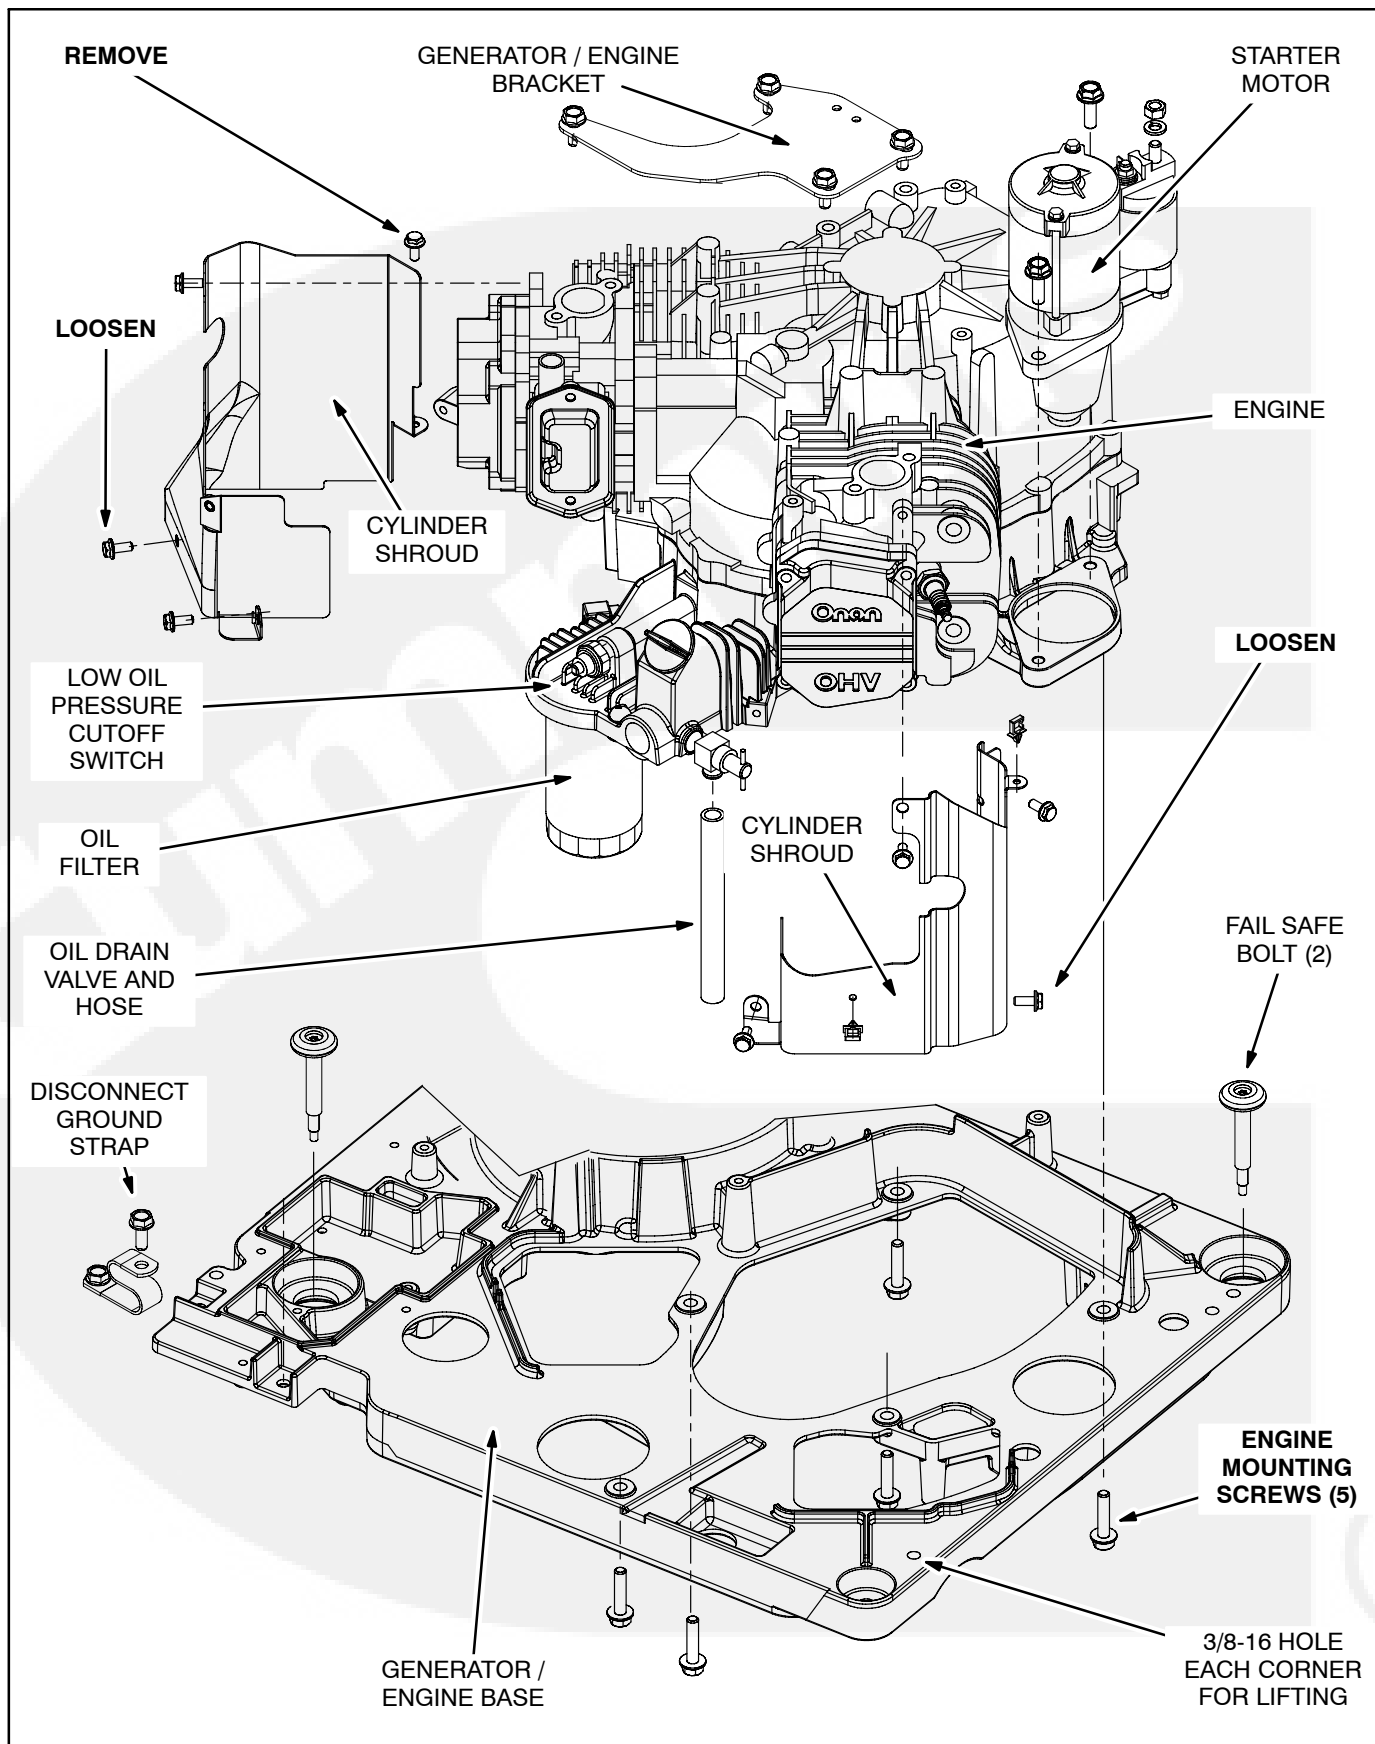

FIGURE 9-2. ENGINE
Figure 9-2 illustrates how the engine is mounted on the generator/engine base. The flywheel, exhaust manifold and mounting bolts are accessible for removal on the bottom side of the base.
1. Unless it has already been performed, disconnect all wiring from the engine, remove the generator/engine bracket and loosen or remove the cylinder shroud screws shown in Figure 9-2.
To remove the starter motor (Figure 9-2), disconnect all wiring and remove the two mounting screws. Follow instructions in the starter motor kit if the starter is to be repaired. When installing a starter motor, torque the mounting screws to 20 lb-ft (27 N-m) and the terminal nut to 6.5 lb ft (8 N-m).